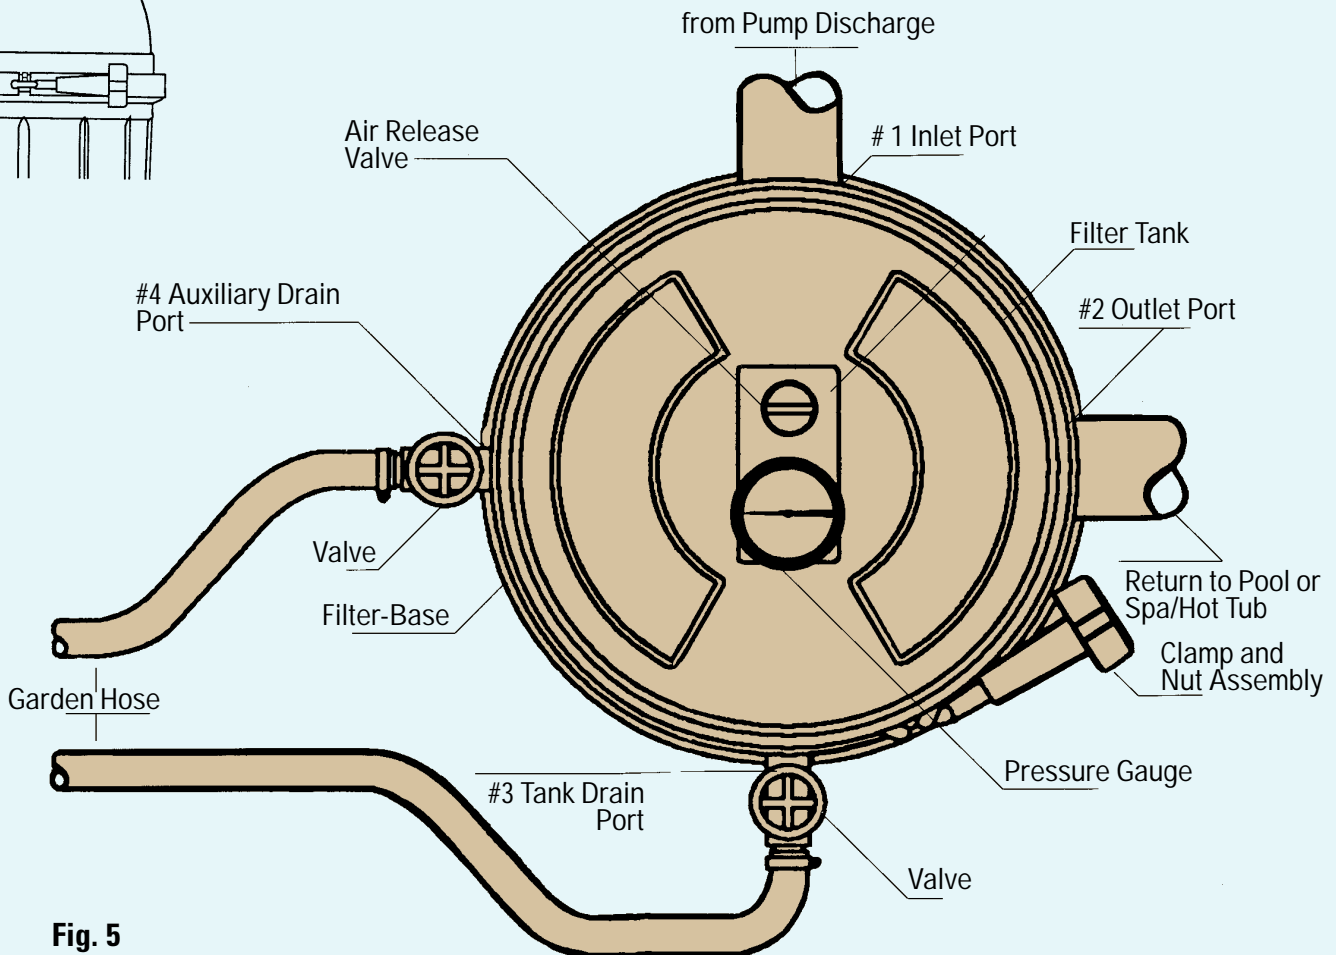

Fig. 5
1. See Figure 5 for piping connections to filter.